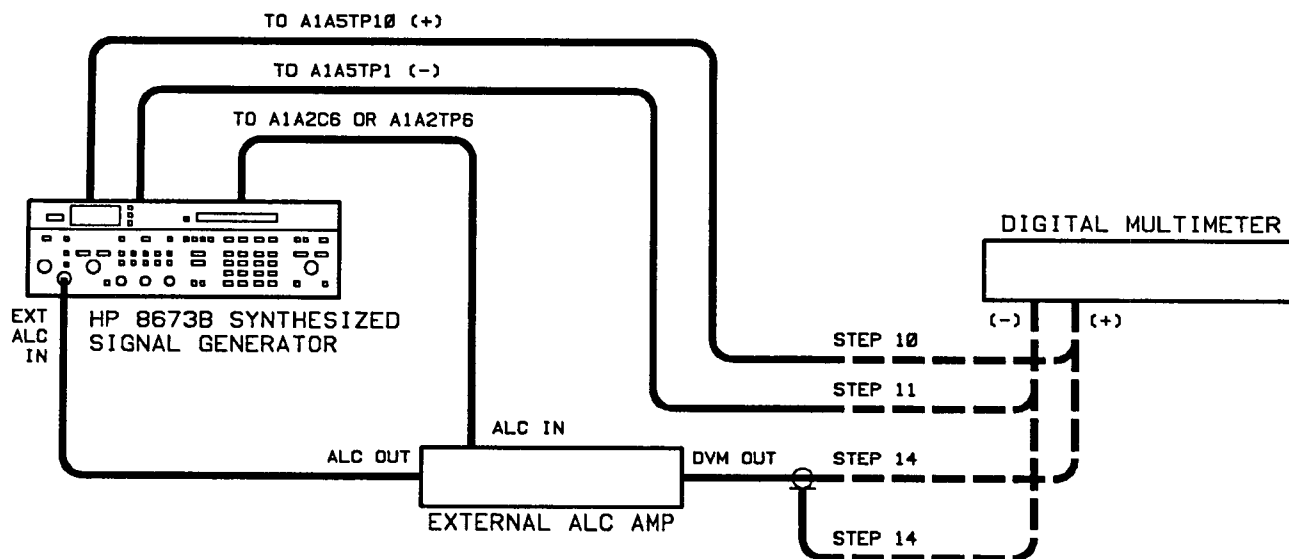

Figure 5-30. External System Mode ALC Adjustment Test Setup
- Connect the equipment as shown in figure 5-30.